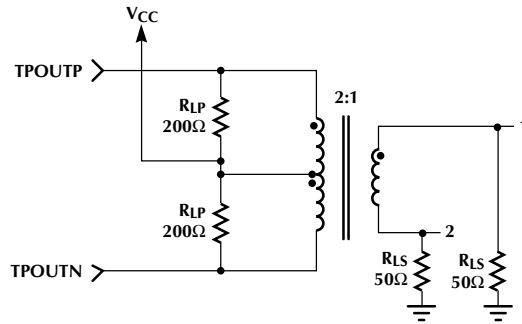

Figure 1.
**Note 2.** Measured using the test circuit shown in fig. 1, under the following conditions:
**Note 6.** Differential test load is shown in fig. 1 (see note 2).